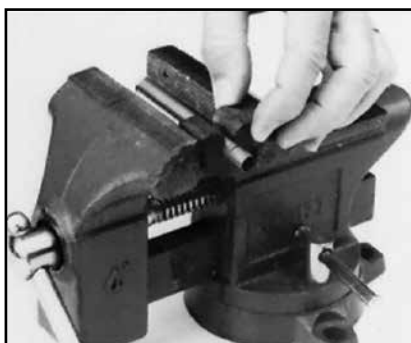

Figure 7 - Cut Tube Using Vise
5. Insert the tube into the rubber vise clamp (provided), with the mark just beyond the clamp. Then firmly clamp the rubber vise clamp in a vise. (See Figure 7.) Use the saw to cut the tube where marked.